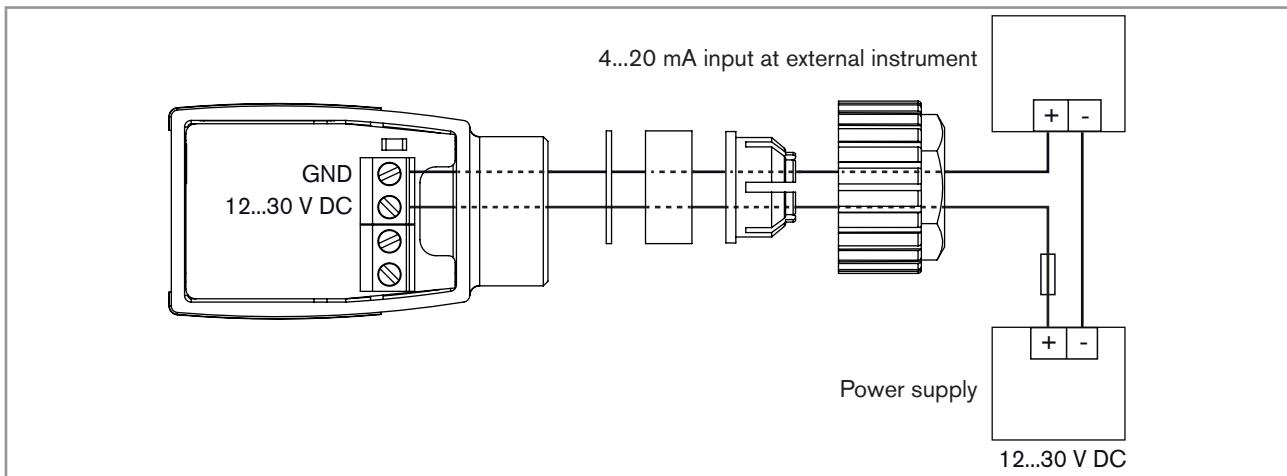

Fig. 3: Device with cable gland – Connection of the current output
- Connect the 4...20 mA current output. Refer to Fig. 3.